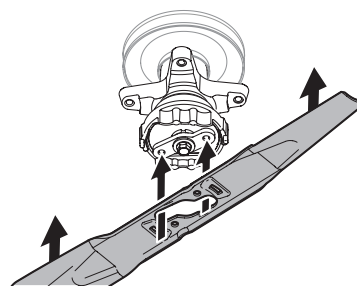

Figure 4
3. Position the blade under the spindle assembly and carefully align the large opening in the center of the blade over the tractor blade retainer. See Figure 4.
4. Push the blade upward against the blade adapter until the collar above rises. See Figure 4.